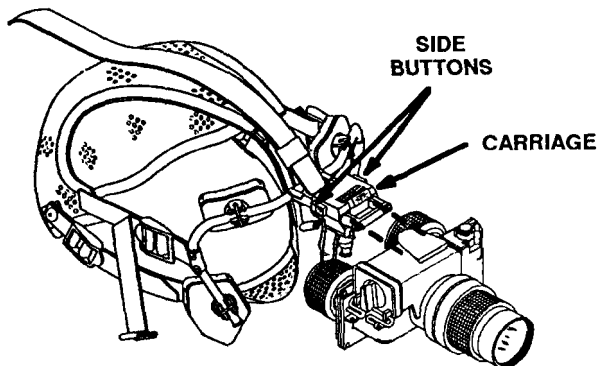

Figure 2-19. Headmount Assembly/Goggle Mounting.
f. Insert the goggle into the headmount assembly, using the index finger as a guide line up the slides and push with firm pressure until you hear a click (see Figure 2-19). Pull slightly against the goggle to make sure it is attached.